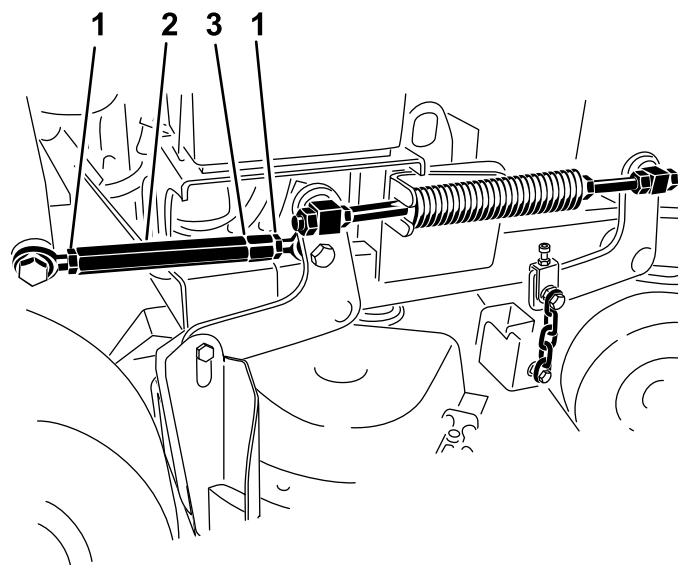

Figure 83
4. Loosen the jam nuts at both ends of the turnbuckle (Figure 83).
**Note:** The end of the turnbuckle with the groove has left threads (Figure 83).